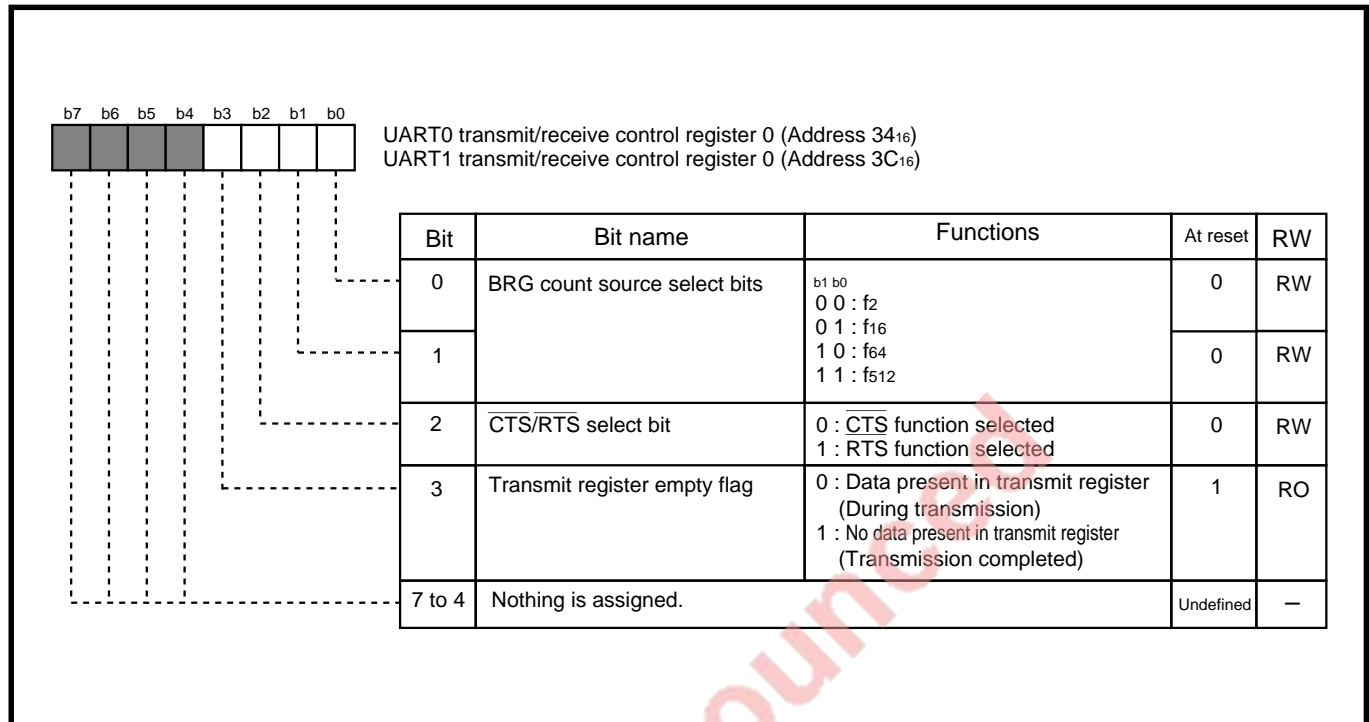

Fig. 11.2.3 Structure of UARTi transmit/receive control register 0
Figure 11.2.3 shows the structure of UARTi transmit/receive control register 0. For bits 0 and 1, refer to section “11.2.1 (1) Internal/External clock select bit (bit 3).”